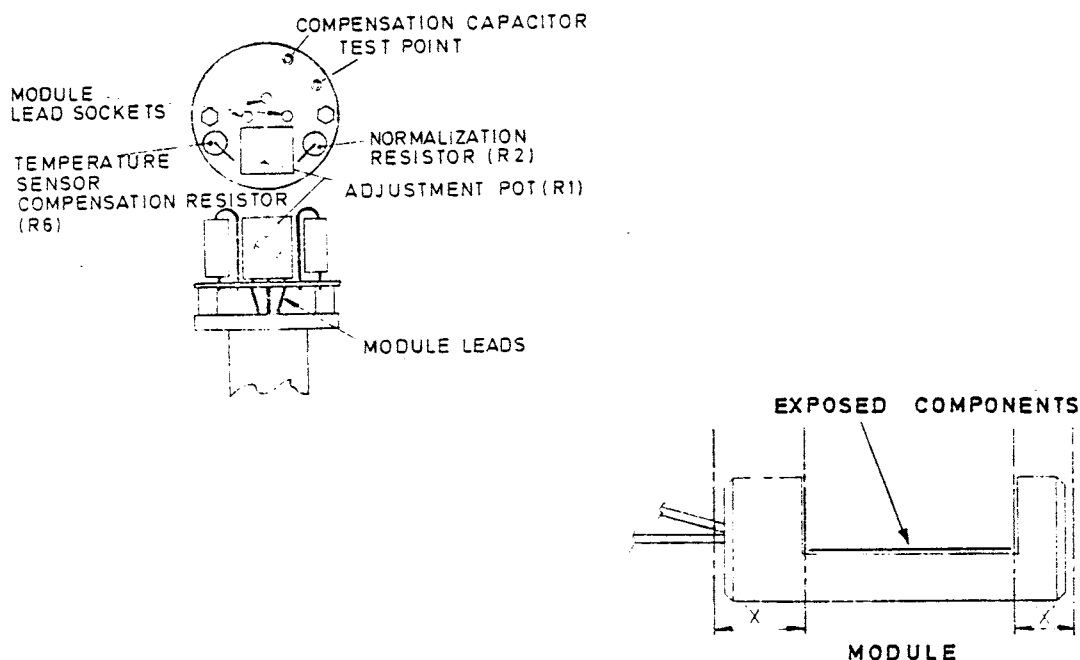

Fig. 3 PCB assy. diagram
7. Note the value of resistors included with the detector module replacement kit, if either of these differ in value to resistors R6 and or R2 mounted on the p.c.b. and shown in Fig. 3 they must be replaced by those supplied in the kit. Using a fine tip soldering iron remove either or both resistors, (R2) normalization, and (R6) temperature sensor compensation, with the minimum possible heat applied. Solder using flux cored 60/40% tin, lead solder. Remove any locking compound from the adjustment potentiometer (R1) to allow for subsequent re-calibration.
8. Gently push the replacement module into the retainer locating the three connecting wires with the correct module lead sockets of the p.c.b. as shown in Fig. 3. Being careful to retain the axial alignment insert the module into the r.f. connector assy. Replace the three module retainer screws and progressively tighten these, use Locktite 222 or similar to lock the threads of each screw.
This should be inserted into the compensation capacitor test point, the position of which is shown in Fig. 3.